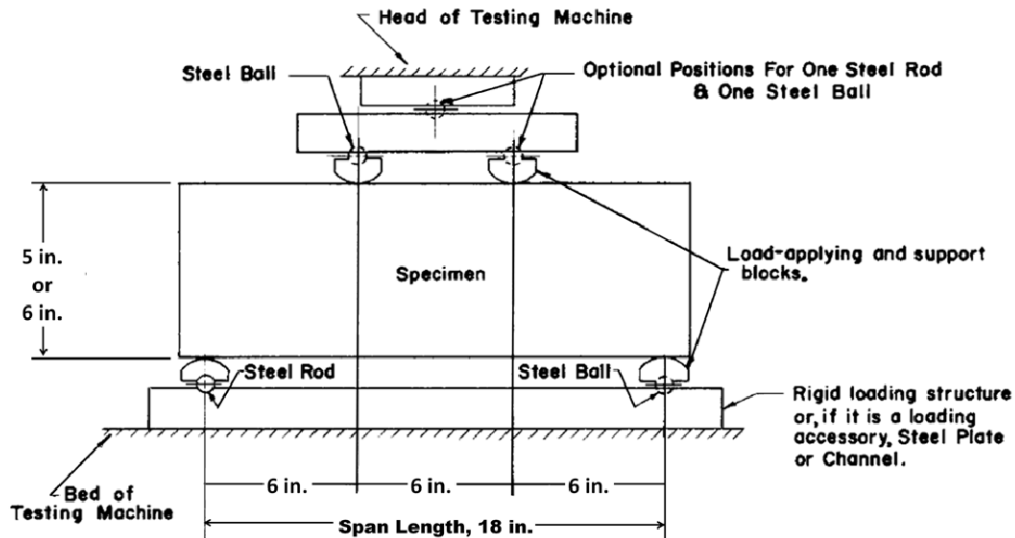

Figure 2: Flexural Test Setup (adapted from ASTM C 78 2008)
- 7.2 The load that causes flexural failure of the beam will be determined in accordance with the loading configuration defined in ASTM C 78. Load will be applied perpendicular to the 20-in. dimension of the beam as shown in Figure 2. Load will be recorded to the nearest 1.0 lb.